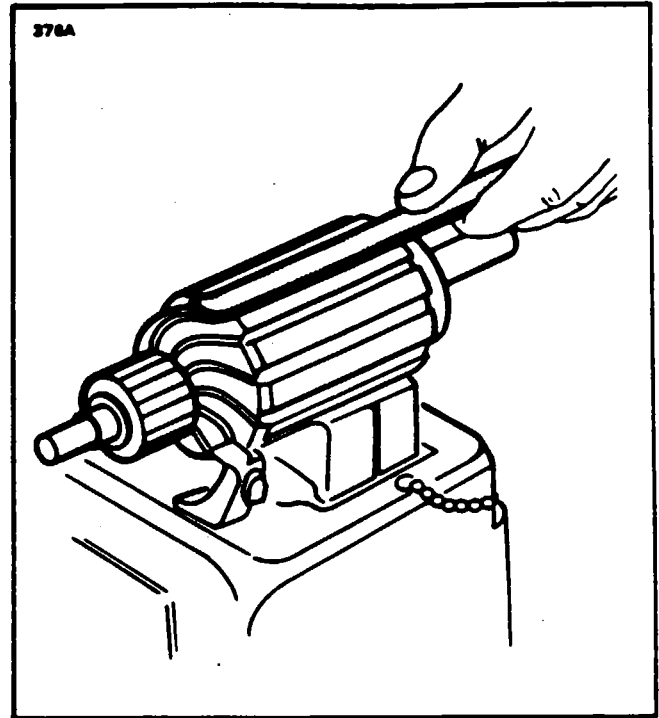

Figure 80-3. Testing Motor Armature for Shorts
3. To test for shorted armature coils, a growler is used. (Refer to Figure 80-3.) The armature is placed on the growler and slowly rotated by hand while a steel strip is held over the core so that it passes over each armature core slot. If a coil is shorted, the steel strip will vibrate.